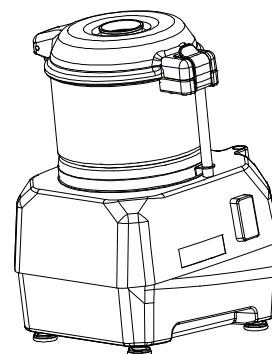

Fig.10
- * Please refer to user manual for cutting bowl, do press the slider block to the bottom and lock the handwheel, as shown in Figure 10.